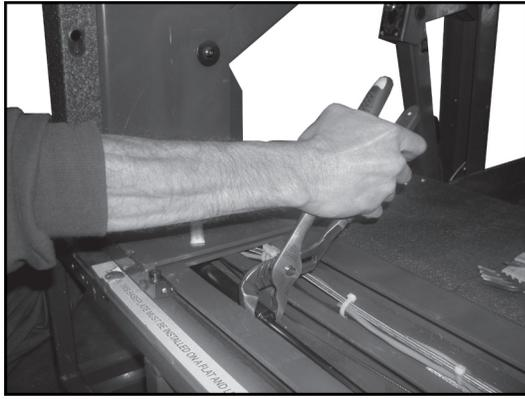

FIGURE 3-17
1. Refer to **Figure 3-17**. Secure gas spring with pliers for leverage.